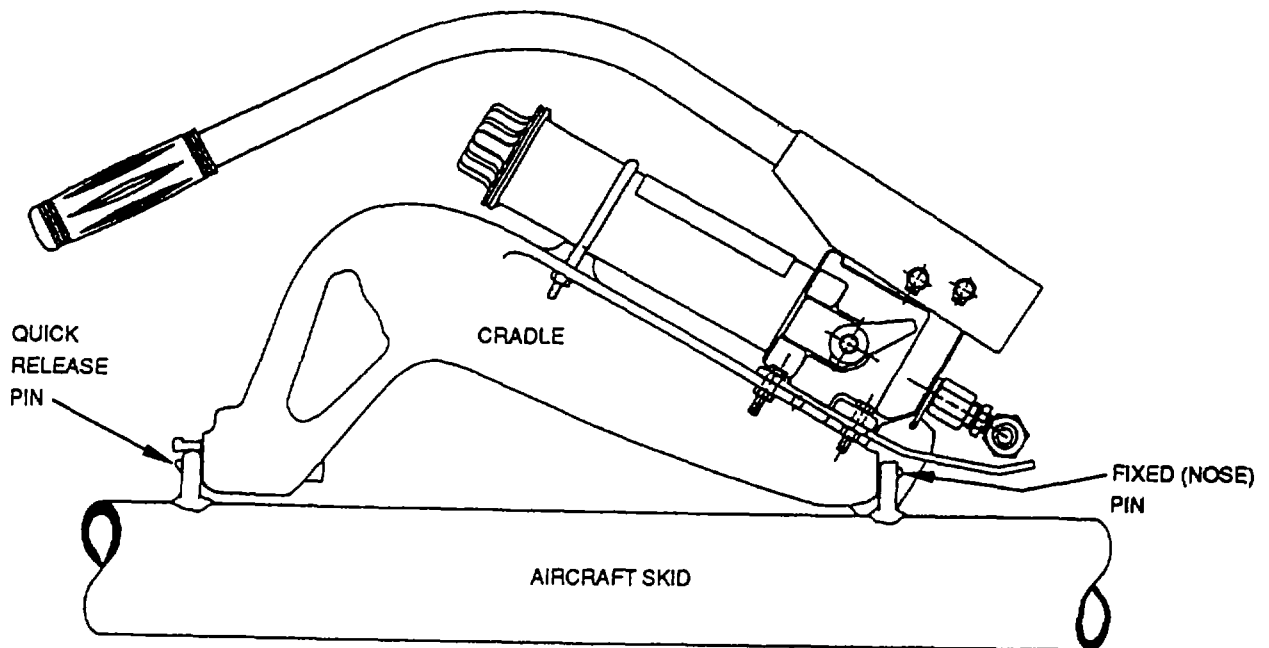

Figure 2-3. Mechanical Connection Components, Model 204-050-200-5
**2-3 4. Quick Release Pin Use, Model 204 050-200-5.** Procedures for engaging and disengaging the quick release pin are presented. Refer to figure 2-3